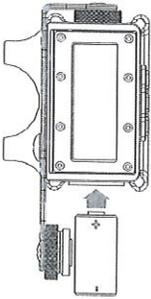

Figure 1-1
3. Insert a fresh battery into the case, positive end first, as shown below in Figure 1-1.